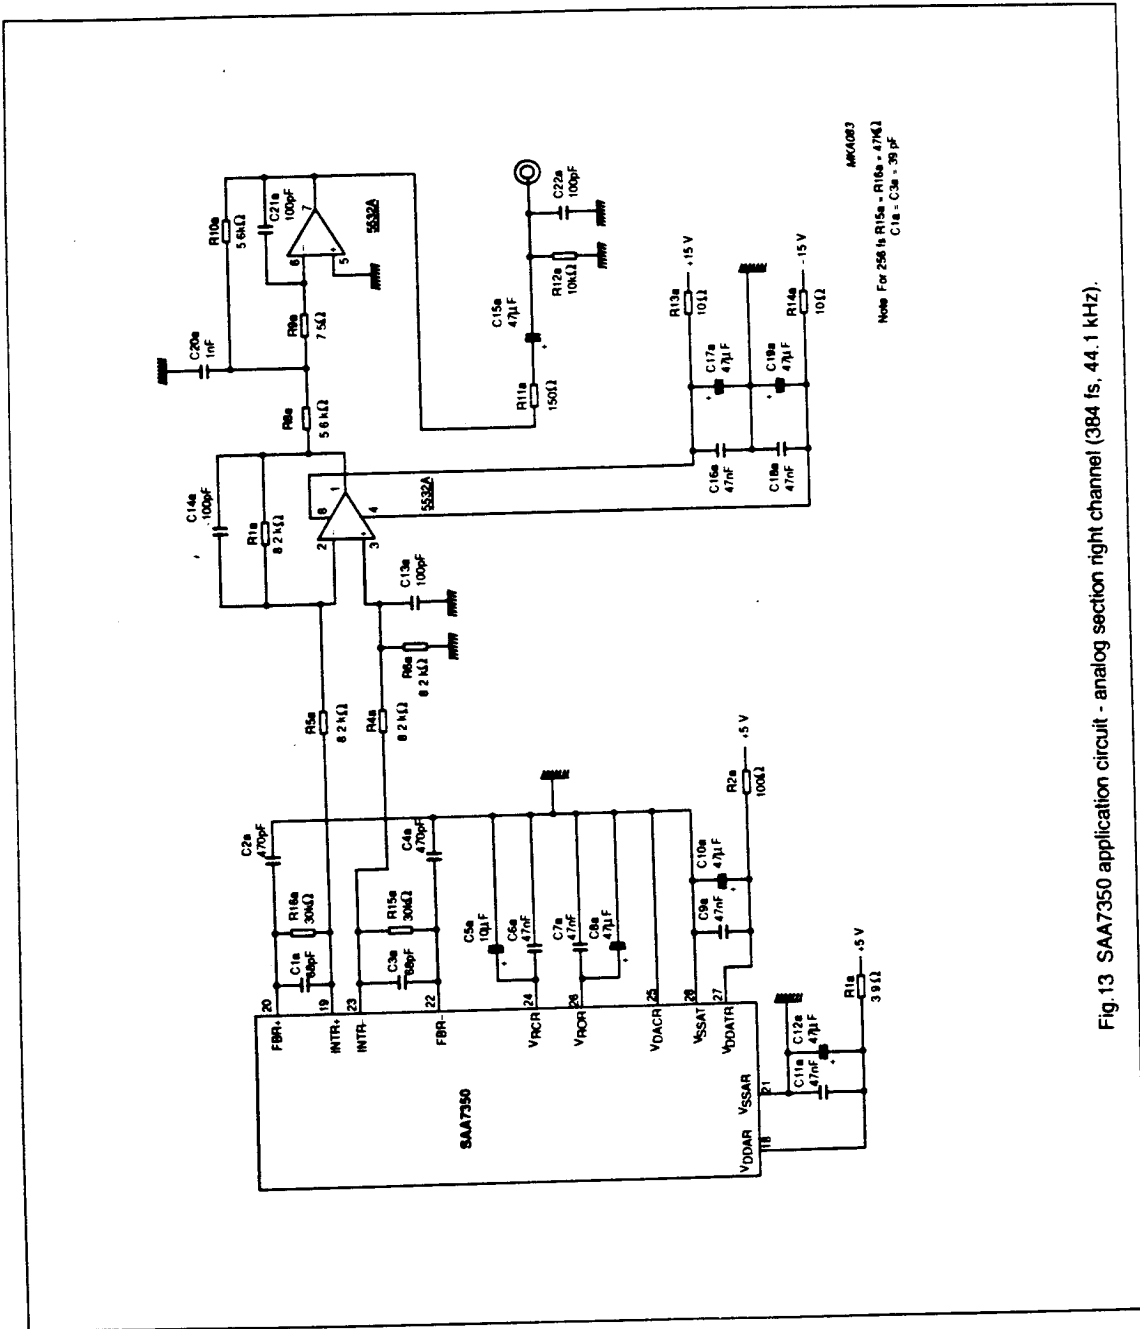

Fig. 13 SAA7350 application circuit - analog section right channel (384 fs, 44.1 kHz).
- Device measured in differential mode with external components shown in recommended application diagram (see Figs 13 and 14). It should be noted that for 1.80 mV output, feedback resistors R16a, R17a, R16b, R17b should be 31.6 k Ω . Application diagram shows preferred type range values of 30 k Ω which give $1.80 \times 30/31.6 = 1.70$ mV.
- Application output level measured at output from first operational-amplifier stage in Figs 13 and 14.